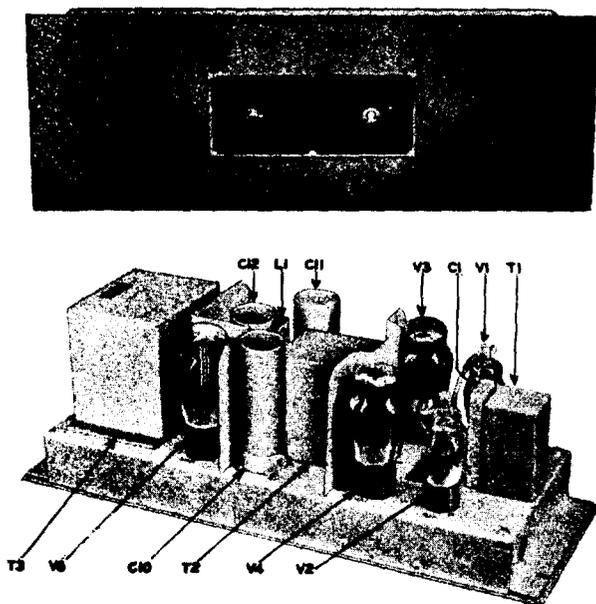

Fig. 2 - 94D Amplifier
**3.01** The 94D amplifier is shown in Fig. 2. It is arranged for standard 19-inch mounting, is 7 inches high and weighs approximately 20 lbs. Its wiring diagram is shown in the instruction bulletin.